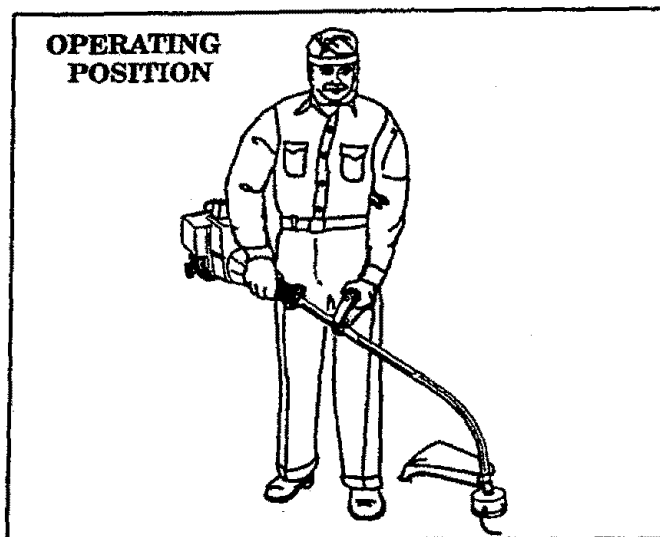

Figure 5
- a. **Before starting the engine, stand as shown in Figure 5 and check for the following:**